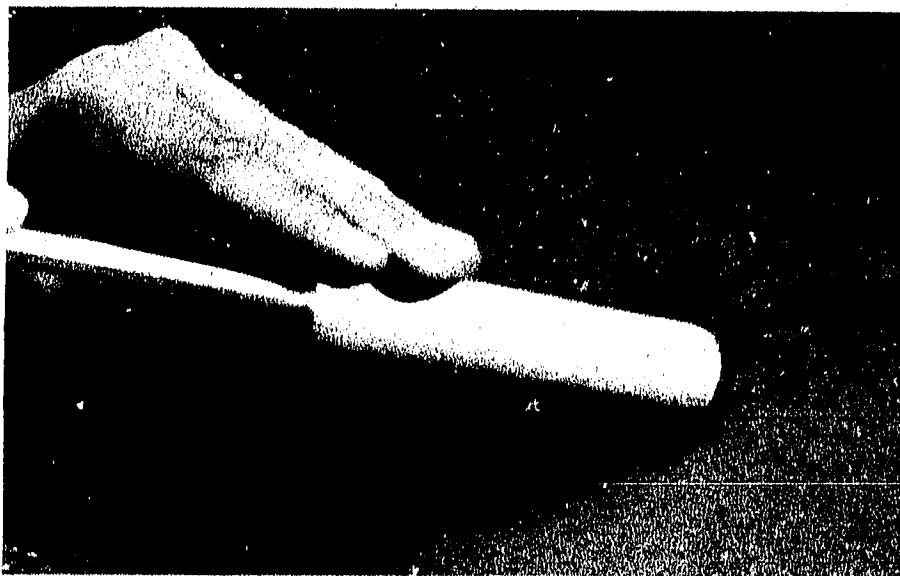

Figure 5-15. Forming the Center Conductor Fingers
28. Now roll center conductor along clean bench or table to form the fingers until they are a firm fit over klystron grid ring. (See Figure 5-15.)